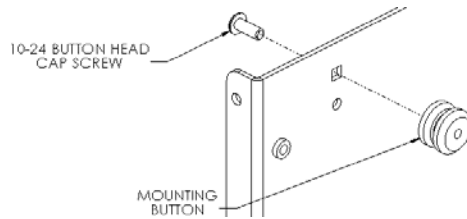
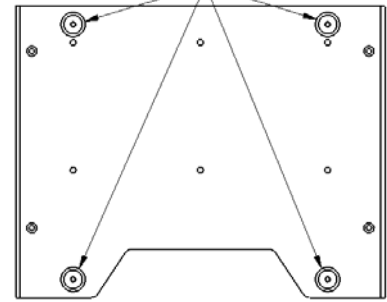

Figure 10
Figure 11
- Using a 10-24 button head cap screw inserted from back side of bottom bracket through the square holes, secure mounting button, with chamfered hole of mounting button (larger surface) facing bracket, bracket (four places) (see Figure 10 & Figure 11).